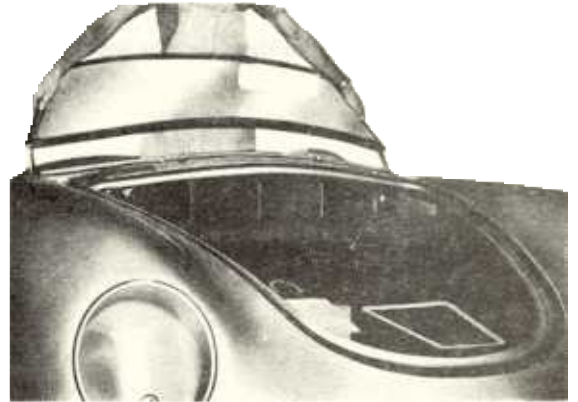

Fig. 51
6. Place windshield frame with glass in position (see fig. 51).